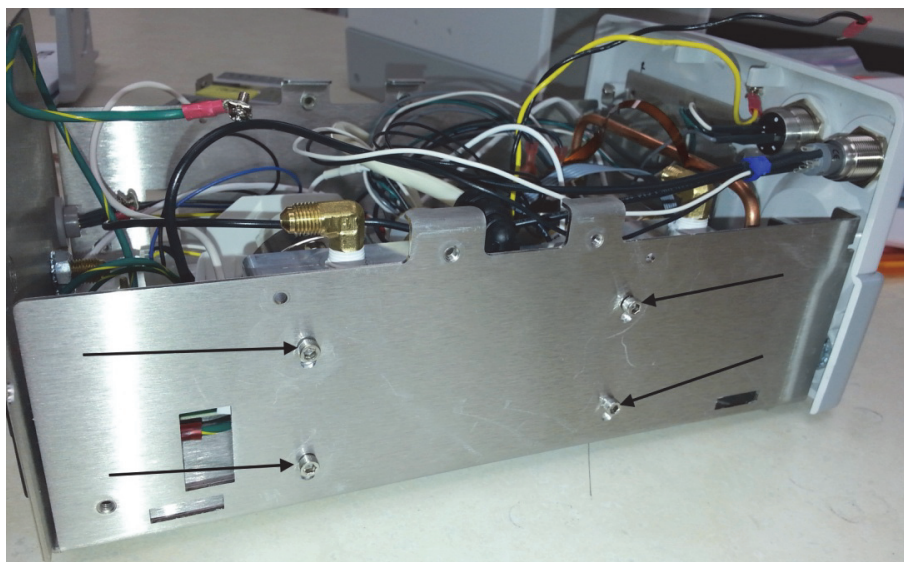

Figure 3
6. Remove the four hex screws that secure the Manifold to the chassis. See figure 3.
2. Set the new Manifold Assembly in the chassis and secure it to the chassis with four hex head screws that were removed in Step 6. See figure 3 of the previous section.